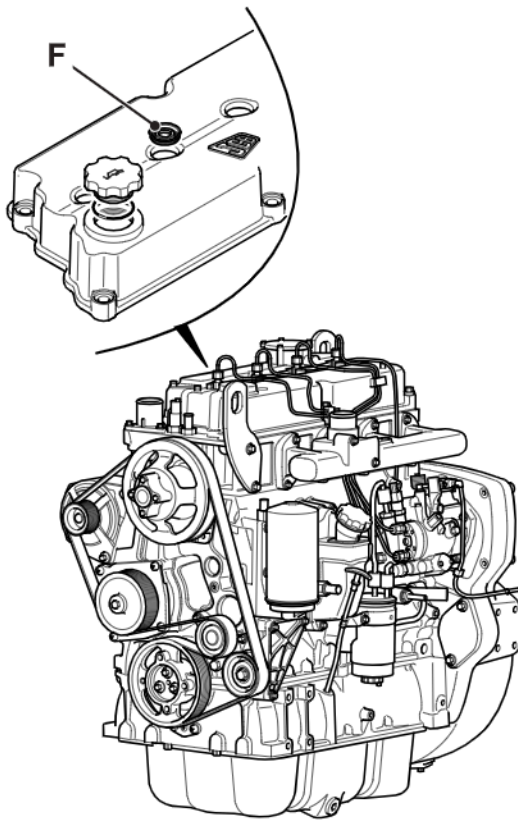

Fig 74.
- b Do not aim the jet wash directly at the fuel injector seals F. → Fig 74. (□ 110).